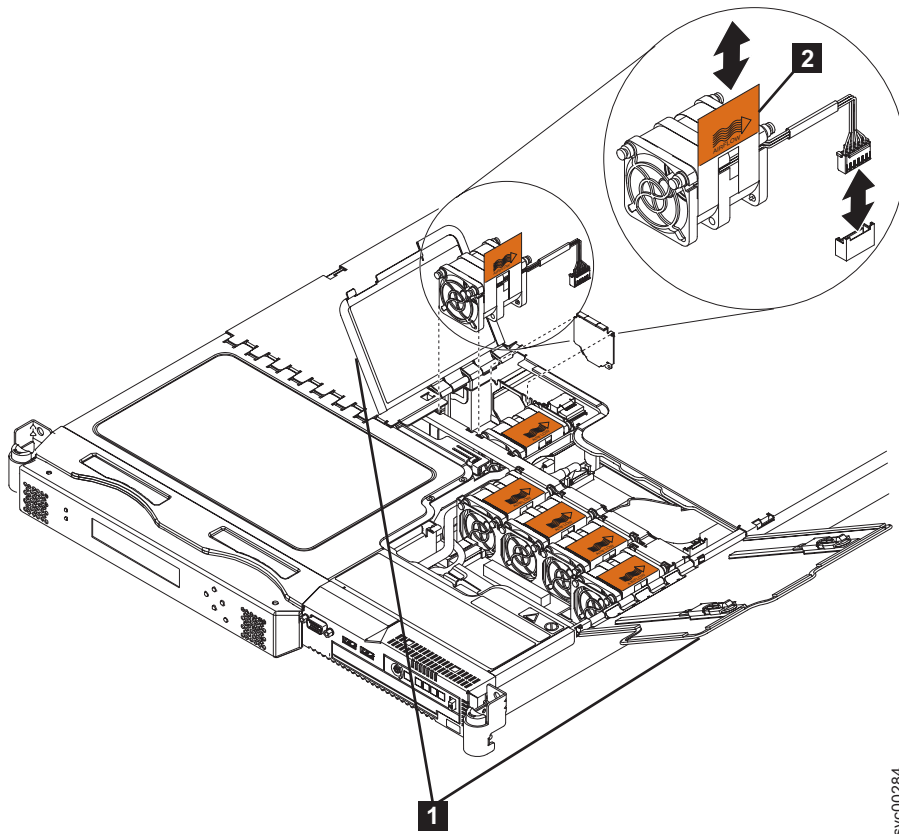

Figure 239. SAN Volume Controller 2145-8G4 fan doors, locations, and connectors
2. Slide the node forward to gain access to the fan doors (**1** in Figure 239).
5. Pull up on the orange tab (**2** in Figure 239) of the failing fan to lift the fan out of the node.